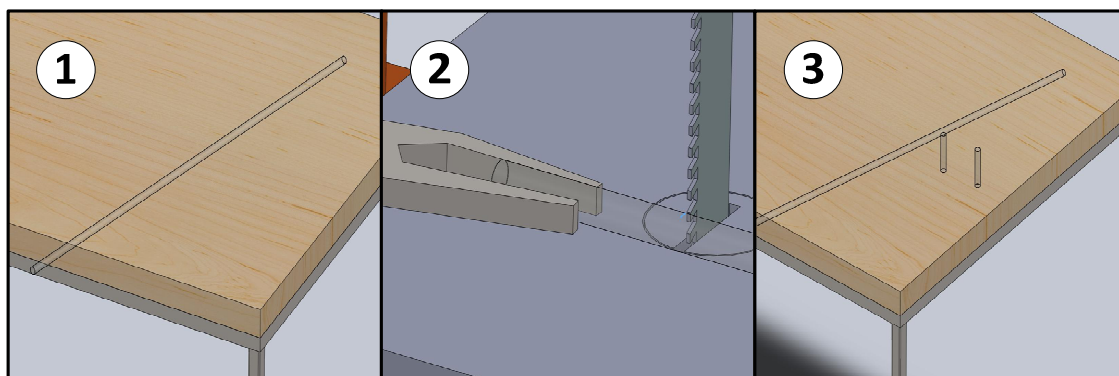

Figure 13: Cutting the rods- (1) Acrylic rod. (2) Lightly grip the rod with the pliers. (3) Two 3" pieces.
B. Use the **Self Locking Pliers** to gently grip onto one end of the dowel rod as shown in Figure 13(2), do not do it tight enough to put dent marks in the acrylic. This is done because when cutting round objects with a **Band Saw**, the downward pull of the blade has a tendency to make the material spin out of control. By holding onto the rod with **Self Locking Pliers** while cutting the piece prevents this from happening.